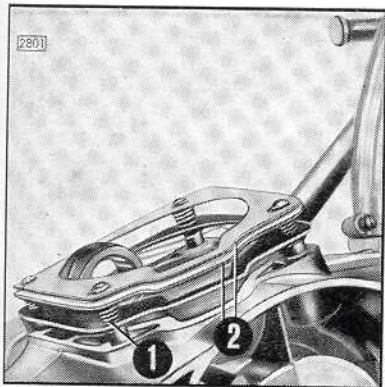

Fig. 97
d) When fitting a new cylinder and piston proceed as follows: Put standard cylinder flange gasket in its place on the crankcase (fig. 97/1), fit piston and cylinder and tighten.